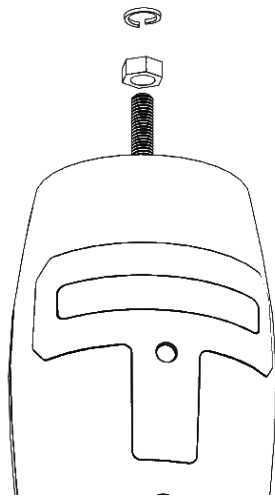

Figure 8: Ceiling Plate Installation
2. Next screw the **nut** back onto the **ORBIT** and then place the **spring clip** back onto the motor shaft so that it now sits above the **lock nut** (see Figure 8).